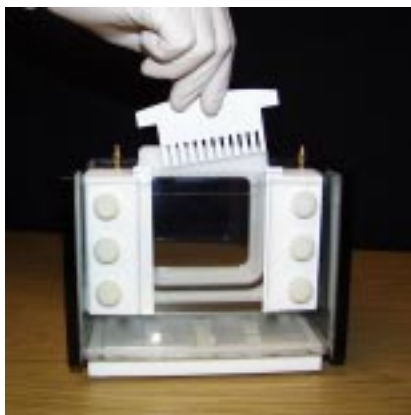

Fig 10
4. Add the appropriate volume of running buffer to the upper and lower chambers (see table 1 on page 8), replace the lid and connect to a suitable power supply (fig 10).